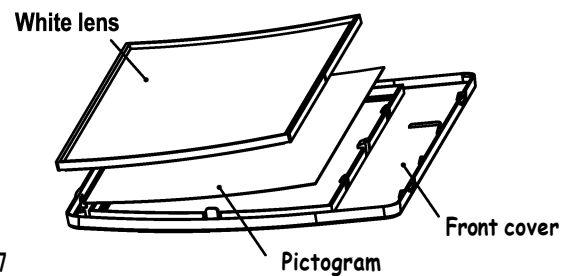

Fig 7
8. Take out pictogram and white lens from front cover, change direction of pictogram properly then assembly again(see Fig 7).